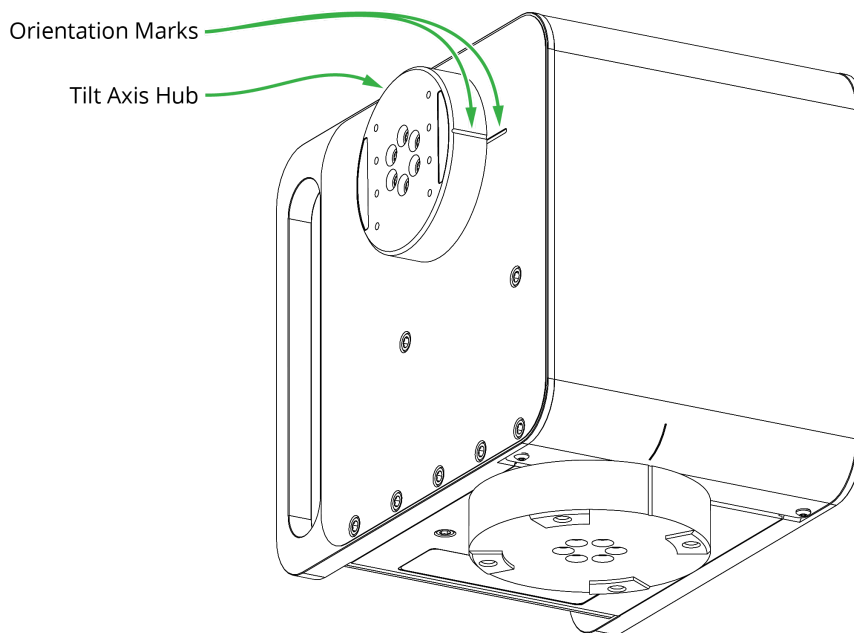

Figure 3.05 — X300, showing Tilt Axis Orientation Marks
1. Find the orientation mark on the **Tilt** axis hub and note whether it is aligned with a similar mark pointing towards the front of the head (Figure 3.05). The front is the side that is opposite from the connection panel.